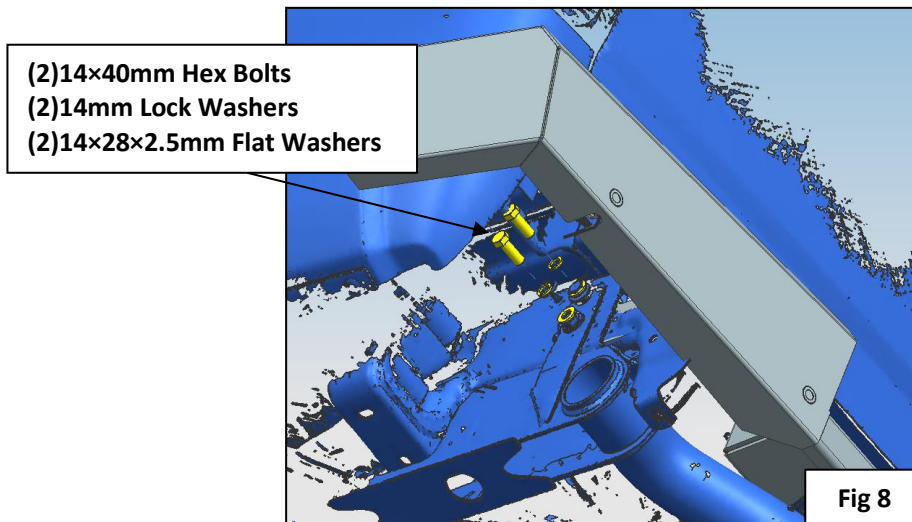

Fig 8
5. Install the Bumper to the frame (**Fig 8**). Fasten the Bumper with the hardware.